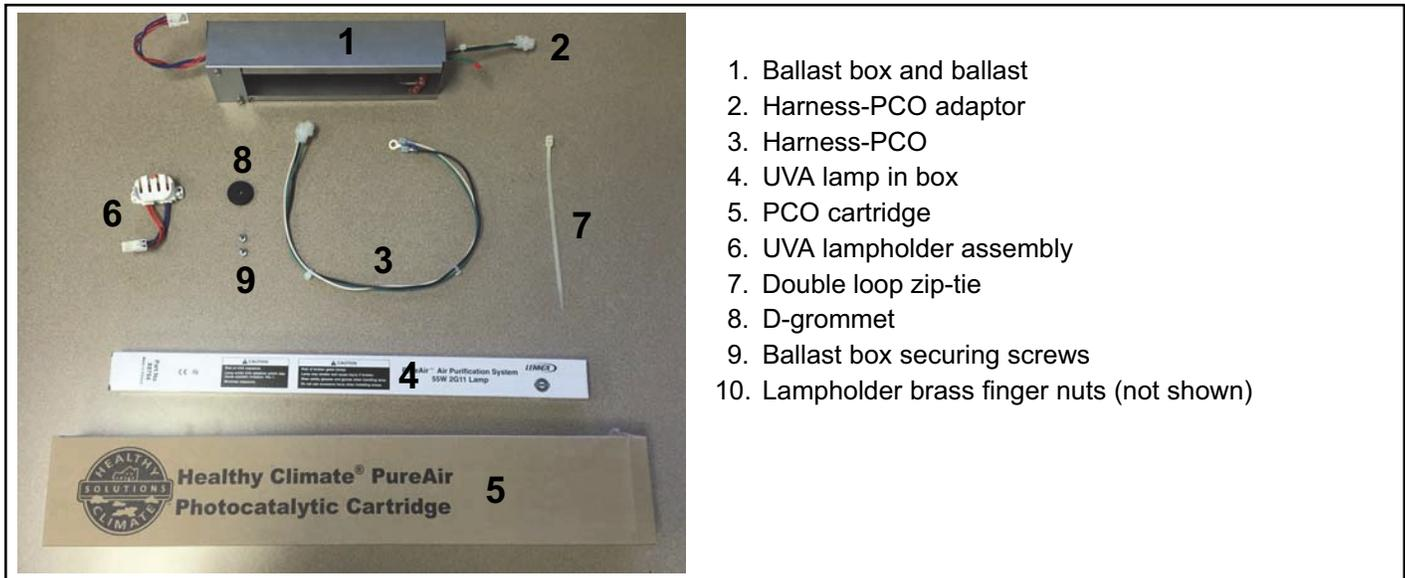

Figure 1. PCO Accessory Kit Parts Identification
3. Locate the ballast box and wire harness-adaptor in the installation kit (see figure 1 on page 1).
1. Locate PCO cartridge, UVA lamp box and UVA lampholder assembly in the installation kit (see figure 1).